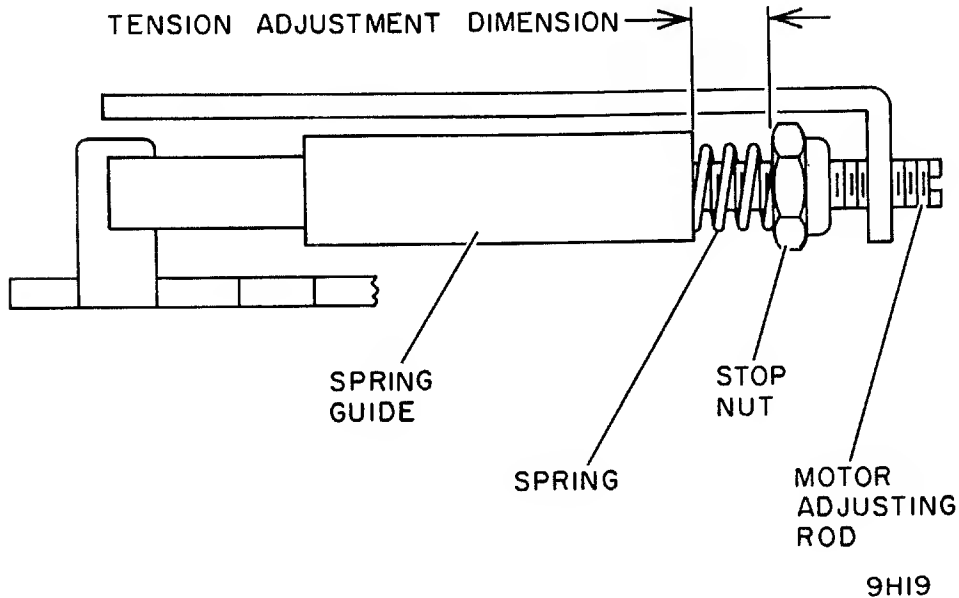

Figure 2-25. Drive Belt Adjustment
2. Referring to figure 2-25, measure distance between spring guide and stop nut. Distance must be as follows: